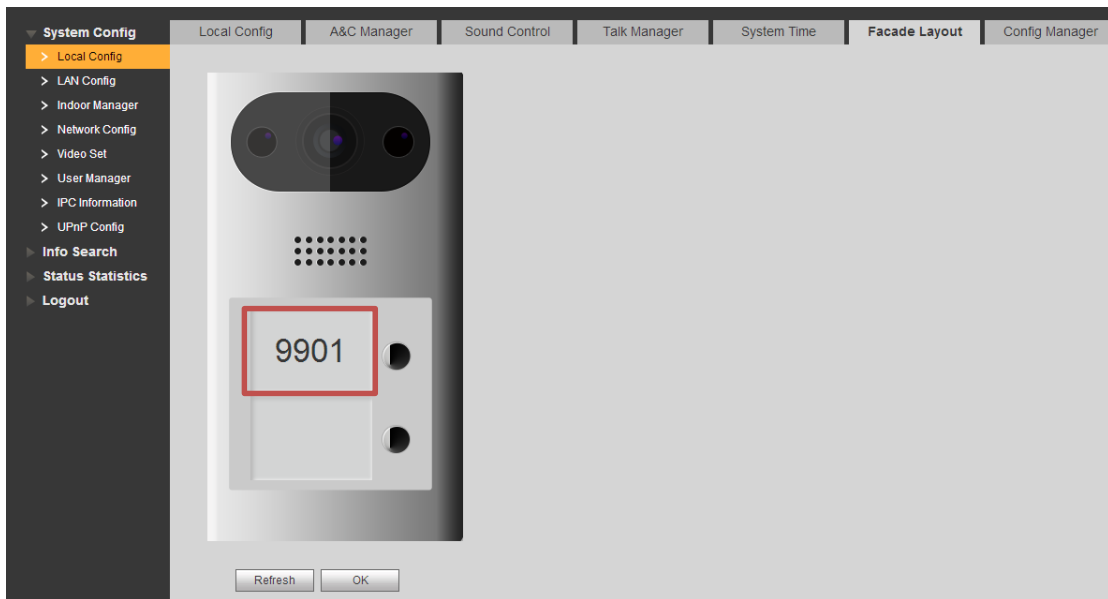

Figure 3-9
Step 6. Click System Config>Local Config>Facase Layout, click white area on the left, and select VTH room no., see Figure 3-9.